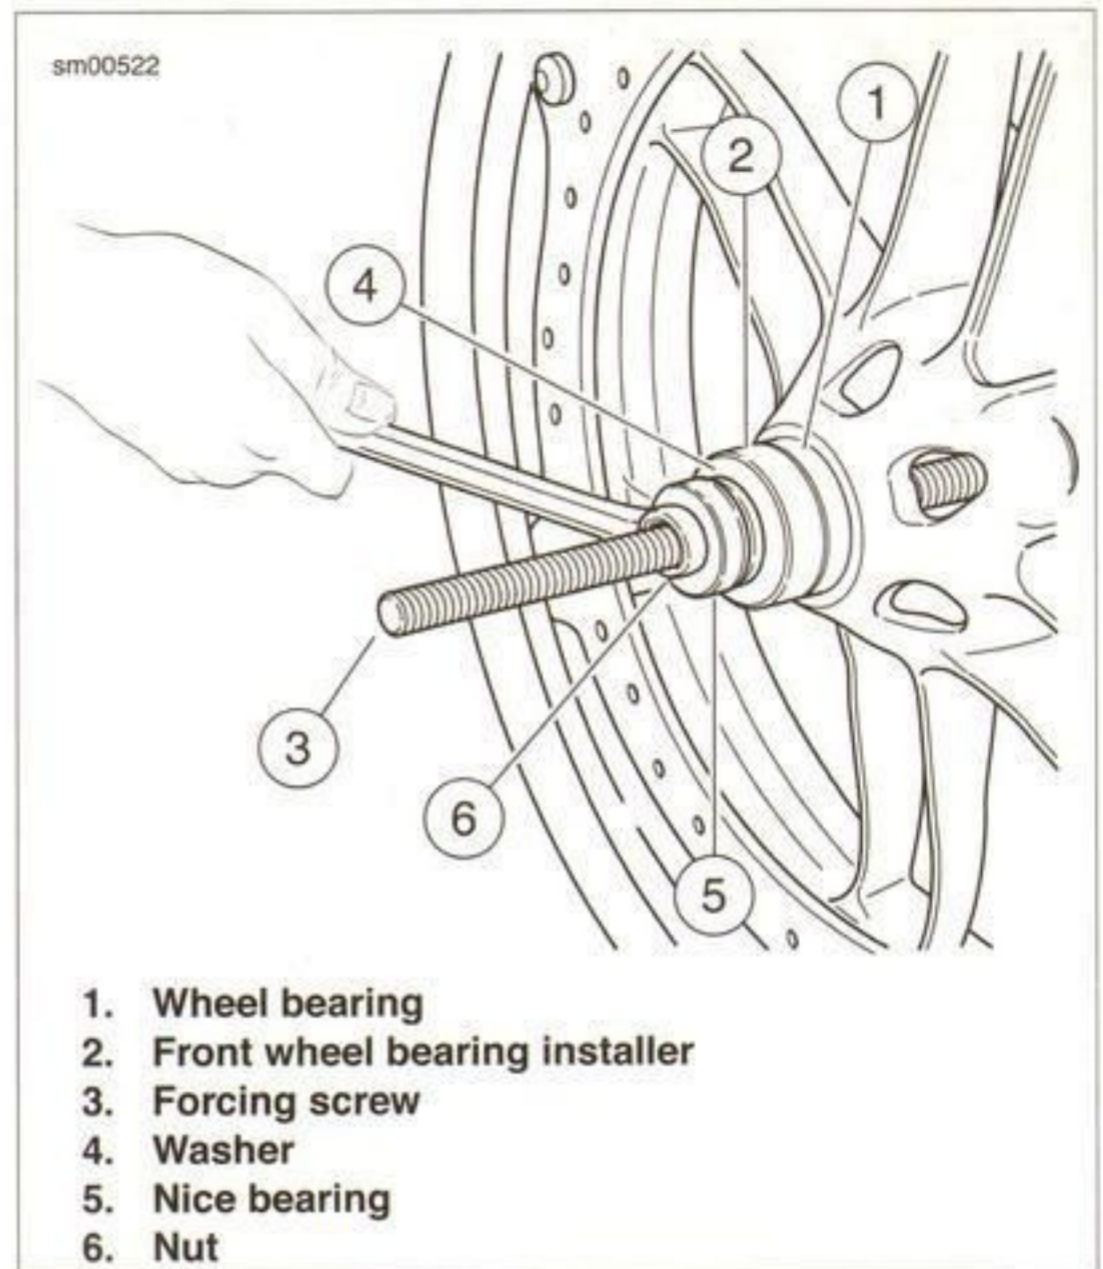

Figure 2-48. Install the Bearing
4. See Figure 2-48. Insert a **new** wheel bearing (1) squarely into the hub, with the lettered side facing out (away from the wheel).
5. Slide the FRONT BEARING INSTALLER (Part No. B-43993-9) (2) onto the forcing screw (3), with the smaller diameter toward the bearing bore.
6. Install a washer (4), Nice bearing (5) and nut (6) onto the forcing screw (3).
7. While holding the forcing screw (3), tighten the nut (6) until the bearing contacts the spacer.